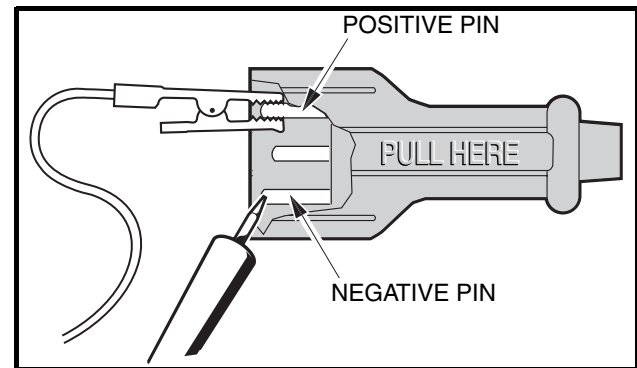

Figure 3-24 DC Plug Test – Reversed Probes
3. Reverse the test probes and check the DC plug again (**Figure 3-24, Page 3-24**). The circuit should show continuity in only one direction.